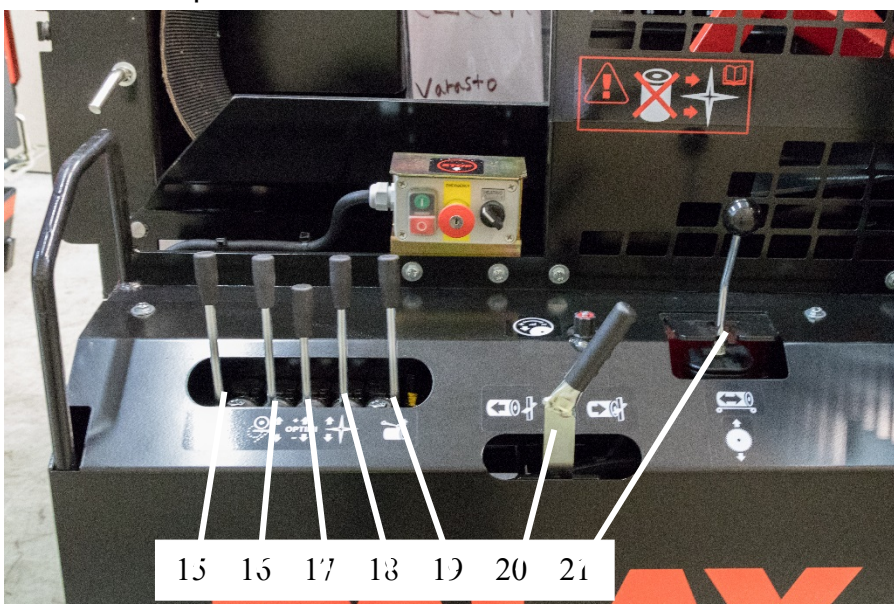

Figure 4
- Sawing wood, starting the splitting, and using the input conveyor are all controlled hydraulically using one lever (21, figure 4).